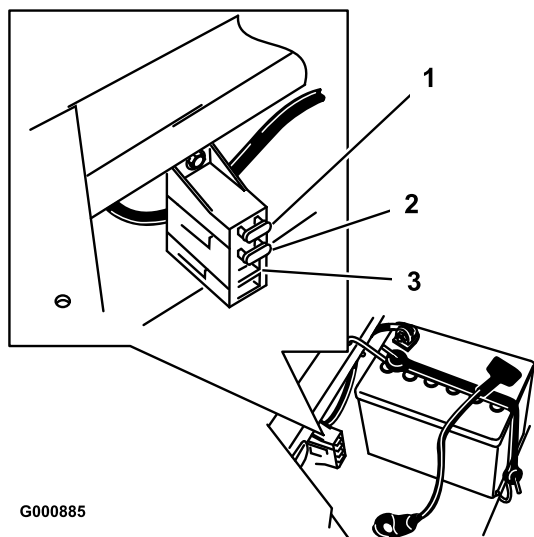

Figure 33
1. Raise the seat to gain access to the fuse holder (Figure 33).
2. To replace a fuse, pull out on the fuse to remove it (Figure 33).